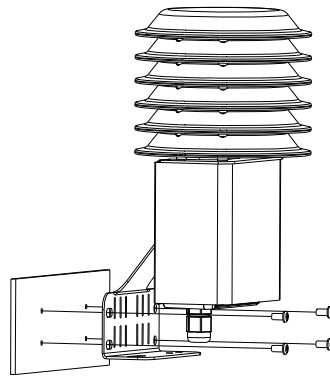

Fig.2
2. If install on a vertical surface, as shown in Fig. 2;